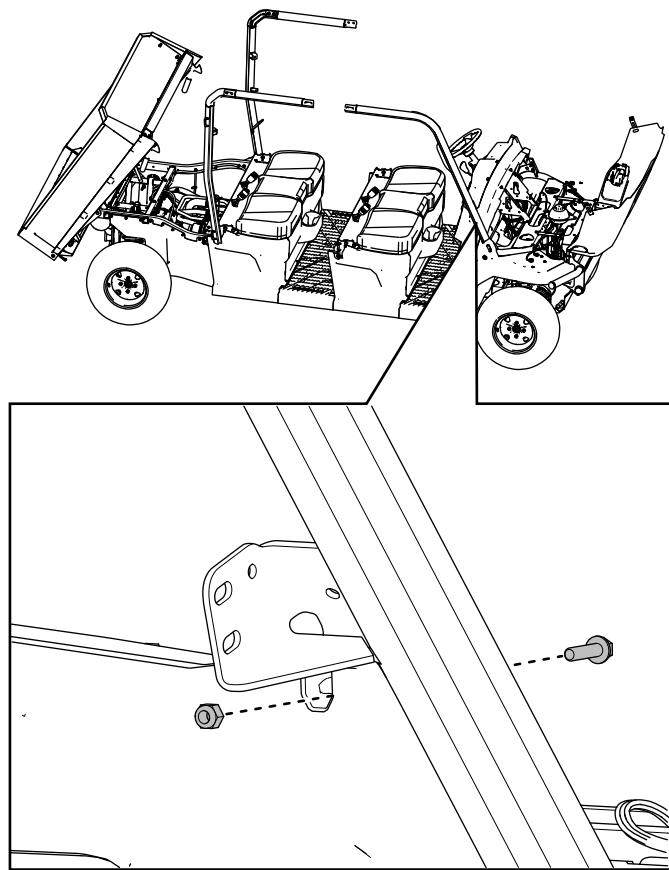

Figure 45
11. Loosely secure the right, front roll bar assembly to the dash panel using 1 hex-washer head bolt ($1/4 \times 1$ inch) and 1 locknut ($1/4$ inch) as shown in Figure 45.